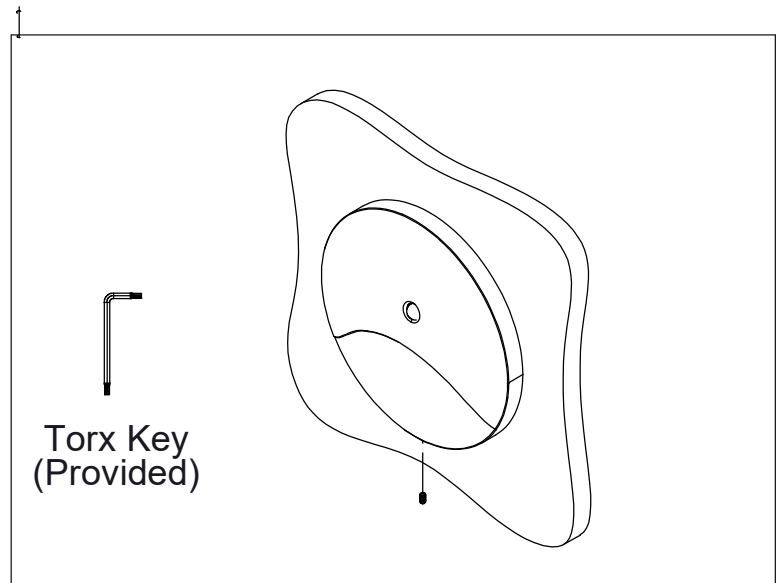

Figure 4
4. Secure Faceplate to Driver Unit with Set Screw using the provided Torx Key (Fig. 4)